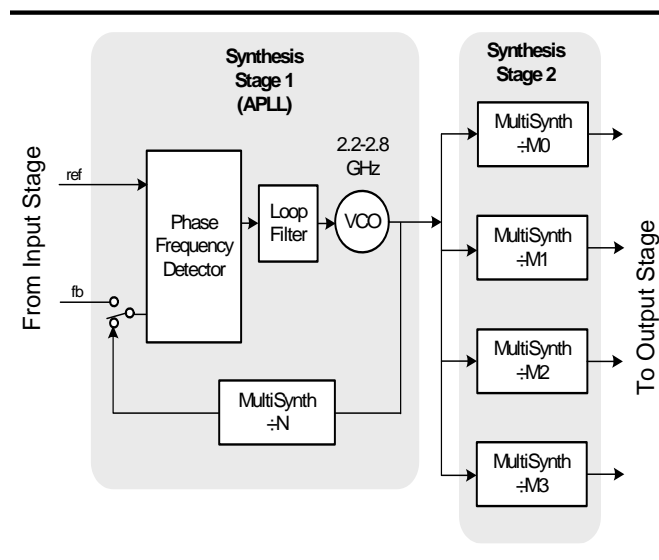

Figure 5. Synthesis Stages
Synthesis of the output clocks is performed in two stages as shown in Figure 5. The first stage is a high frequency analog phase-locked loop (APLL) which multiplies the input stage clock to a frequency within the range of 2.2 GHz to 2.8 GHz. Multiplication of the input frequency is accomplished using a proprietary and highly precise MultiSynth feedback divider (N) which allows the APLL to generate any frequency within its VCO range with less jitter than typical fractional N dividers.